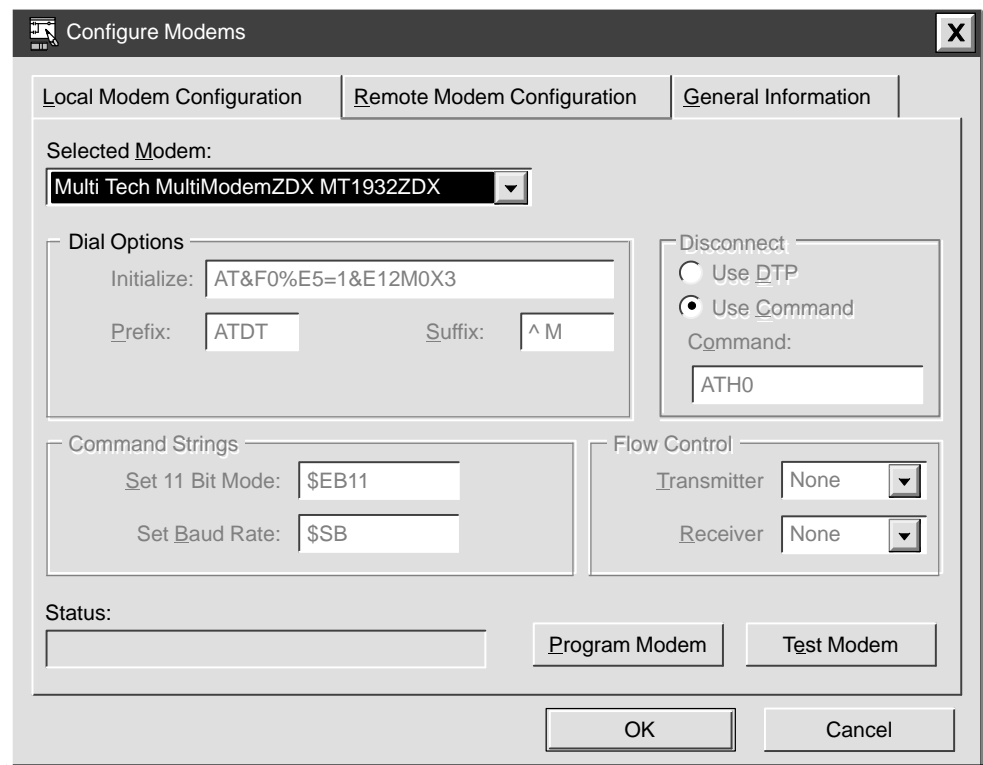

Figure 3-17 Remote Modem Configuration Tab of the Configure Modems Dialog Box
13. Click the Remote Modem Configuration tab. See Figure 3-17.